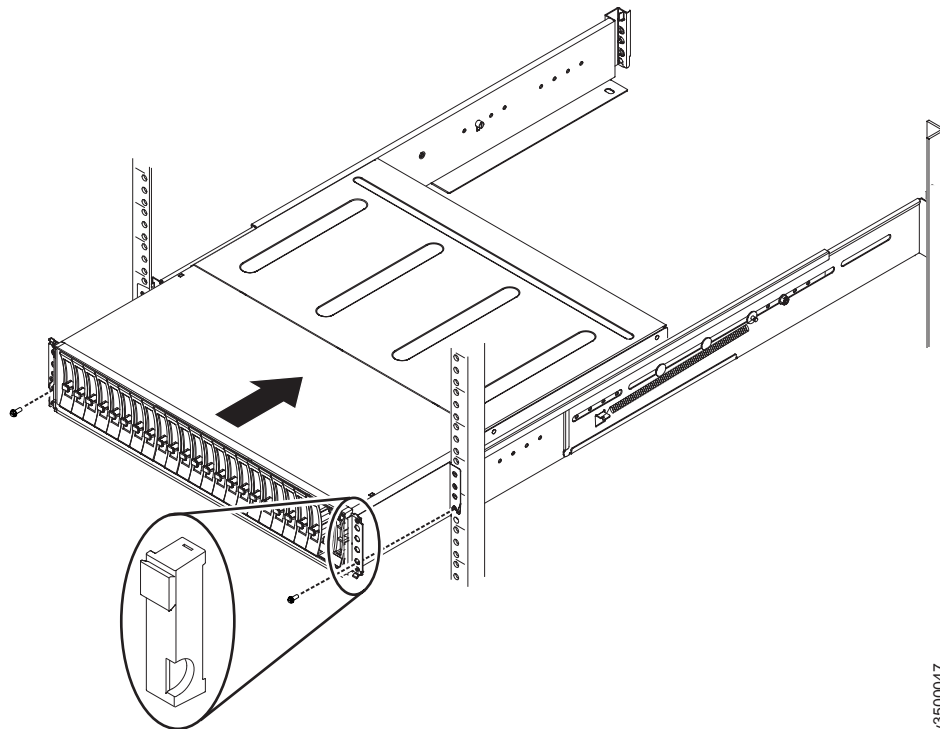

Figure 12. Inserting the enclosure
2. Carefully slide the enclosure into the rack along the rails until the enclosure is fully inserted (see Figure 12).
5. Reinstall the left and right end caps as shown in Figure 12 on page 20. The left end cap has indicator windows that align with the status LEDs (light-emitting diodes) on the edge of the enclosure.